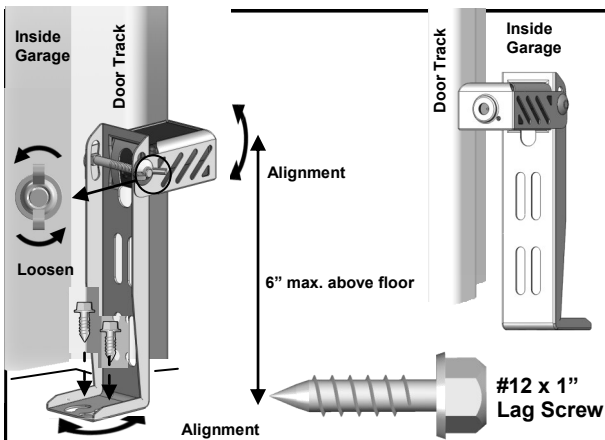

Fig. 2 (Floor-Mount)
1. Place the Photo Eyes facing each other on each side of the garage door, as shown in Fig.2.